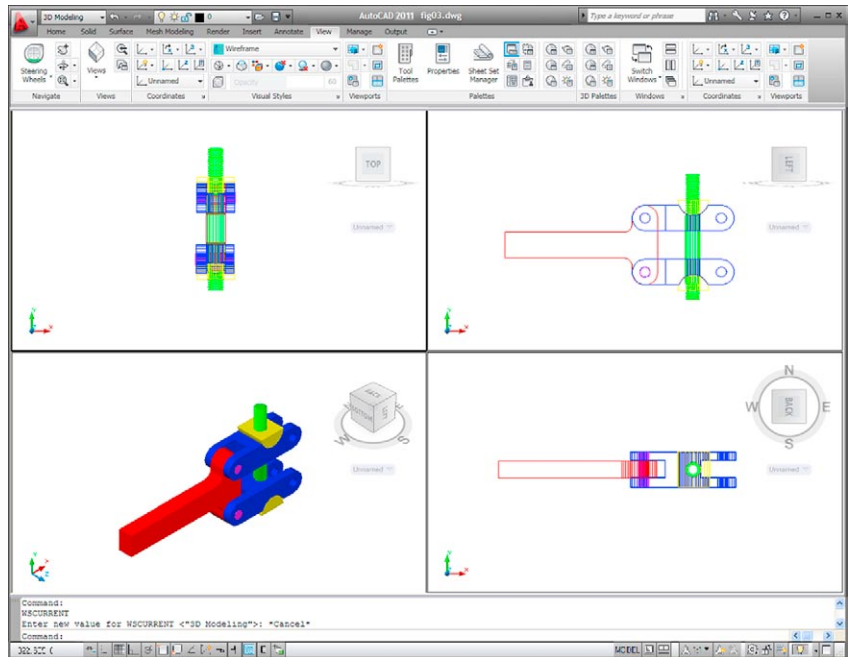

Fig. 14.4 First example – inserting 3D blocks
### First example – inserting 3D blocks (Fig. 14.4)
7. Using the **Move** tool, move the individual 3D models into their final places on screen and shade the **Isometric** viewport using **Conceptual** shading from the **Home/View** panel (Fig. 14.4).